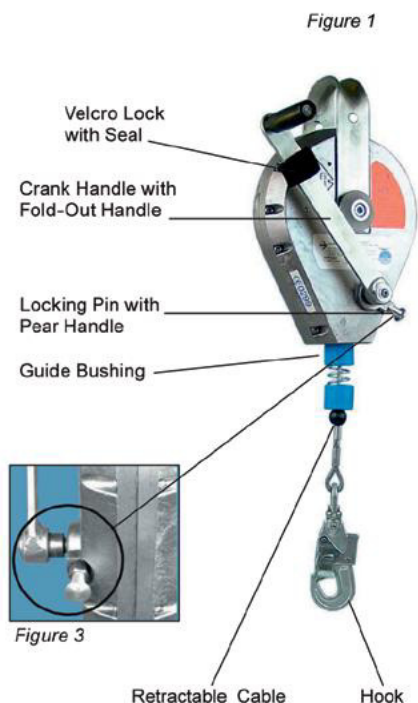
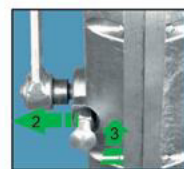

Figure 2
Figure 3
3. Pull out the locking pin with pear handle (see Figure 2), (Action 1), until the crank handle axis (Action 2) pops out audibly and visibly (Figure 3).